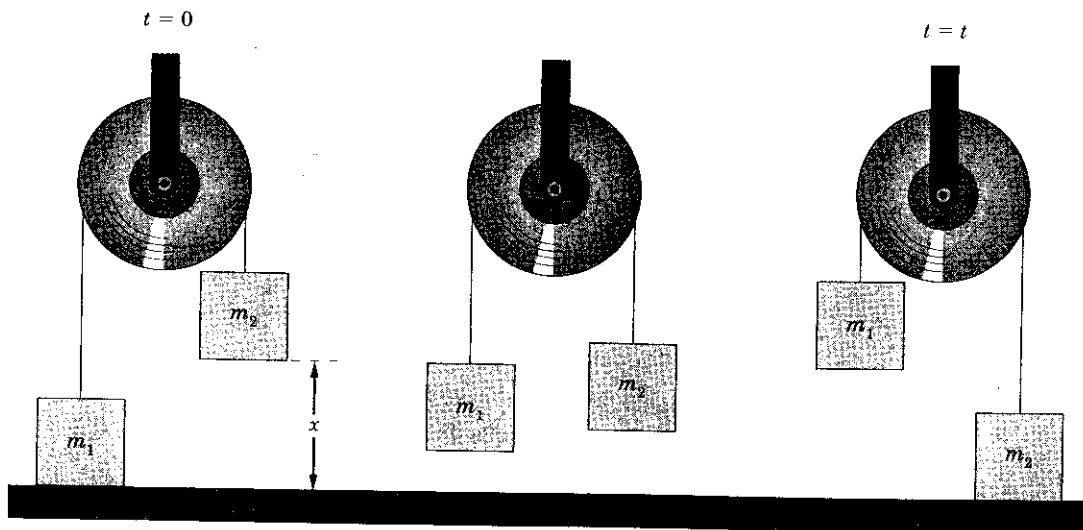

Figure 9.2 Atwood machine as mass m_2 falls a distance x in time t .
Consider the Atwood machine shown in Figure 9.2, where $m_2 > m_1$, the mass m_1 is initially on the floor, and m_2 is released from rest a distance x above the floor at $t = 0$. Successive positions of the two masses are shown in Figure 9.2 at later times until the final picture, which shows m_2 as it strikes the floor at some time t after its release.
4. While one partner holds mass m_1 on the floor, another partner should measure the distance x from the bottom of mass m_2 to the floor as shown in Figure 9.2. The height of the pulley above the floor should be chosen so that x is at least 1.000 m. Record this distance as x in the Data Table. *Use this same distance for all measurements.*